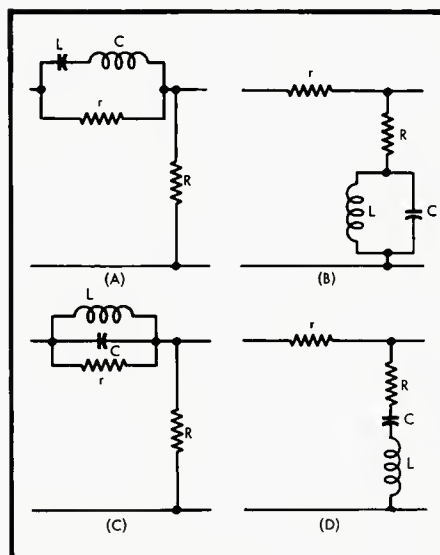

Fig. 7. Basic networks for peak and dip responses.
*Figure 7* shows the basic configurations. It is possible to devise complete formulas giving a response for each of these configurations, but there is a somewhat simpler approach, based on the similarity to a step circuit. It could be regarded as a modified step circuit where the reactances do not vary with the frequency in the same manner as for the simple circuit.
This is a variety of peaking circuits different from that shown in *Fig. 7* and an example of the circuit configuration is shown in *Fig. 10*. At low and medium frequencies in the response band, the transfer behaves as if  $L$  were short-circuit and  $C$  were open-circuit and the network gives just an attenuation due to the source working through  $r$  into  $R$ . Equation (16) gives the attenuation factor of this arrangement using the substitution of Eq. (17). The attenuation possibilities of the arrangement are somewhat similar to those given for the step circuit.